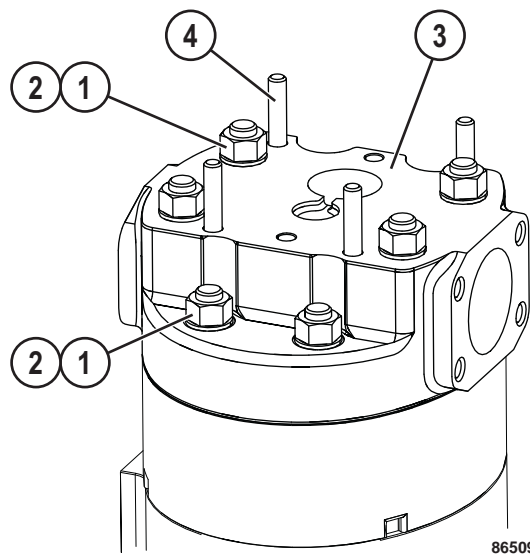

FIGURE 50-9. HOIST PUMP DISASSEMBLY & ASSEMBLY
6. Remove eight nuts (1, Figure 50-9) and flat washers (2). Remove connector plate (3) and the O-ring. If the connector plate is stuck, tap it lightly with a plastic hammer to loosen it.
7. Remove studs (4), the dowels and shaft bearings from connector plate (3) if necessary.